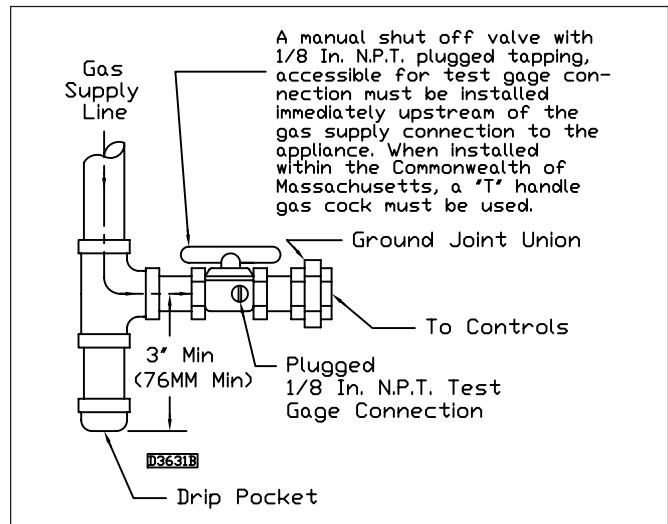

Figure 17 - Pipe Installation, Standard controls
Pipe directly in to combination valve (see Figure 17).
7. Provide a drip leg in the gas piping near the gas duct furnace. A ground joint union and a manual gas shutoff valve should be installed ahead of the unit heater controls to permit servicing. The manual main shutoff valve must be located external to the jacket. See Figure 17.